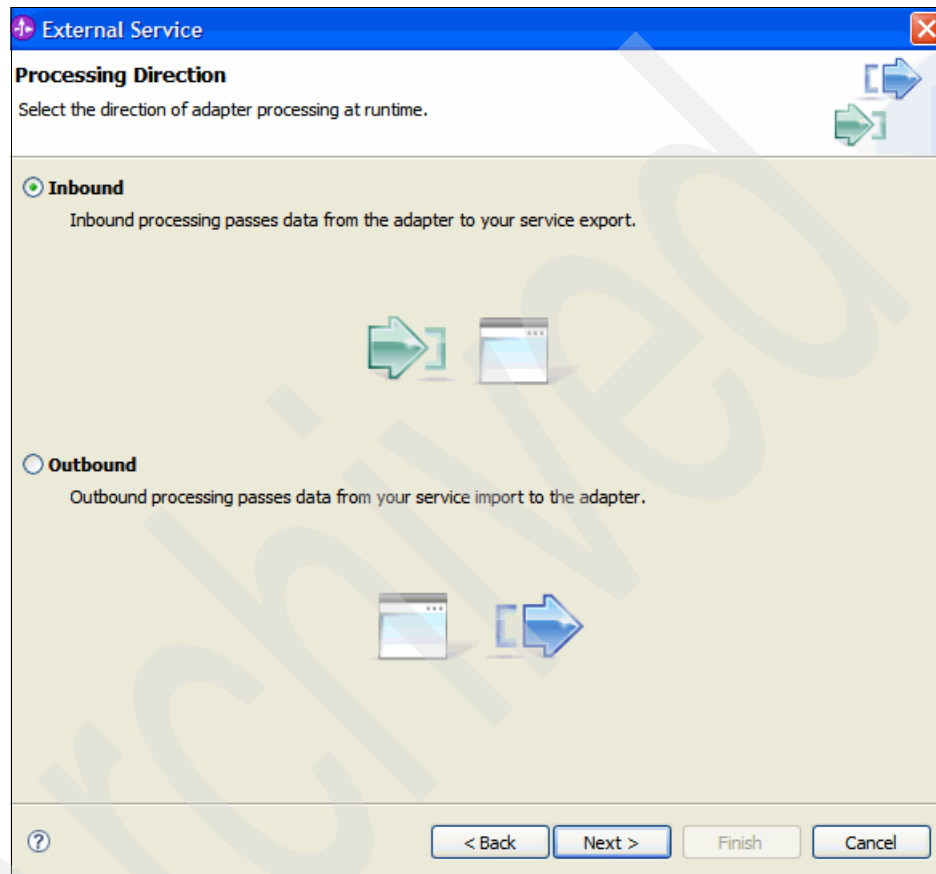

Figure 6-11 Selecting Inbound processing
6. In the External Service – Processing Direction window (Figure 6-11), based on the type of processing the adapter is required to perform, select either Inbound or Outbound. In our example, select **Inbound** because we are passing data from the WebSphere Adapter to the Java Component. Click **Next**.